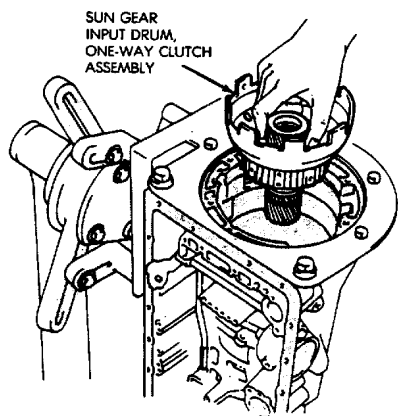

Fig. 38 Removing Sun Gear, Input Drum And One-Way Clutch
(47) Remove sun gear, input drum and one-way clutch as assembly (Fig. 38).